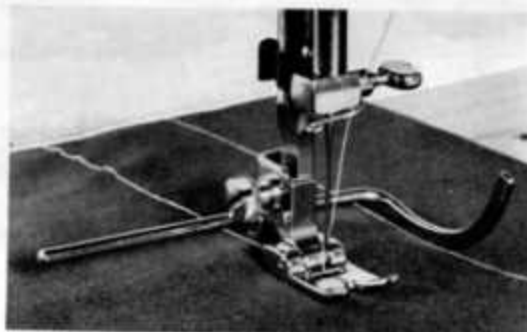

Fig. 41
- (b) Figure 41 indicates the way the quilting guide is attached.